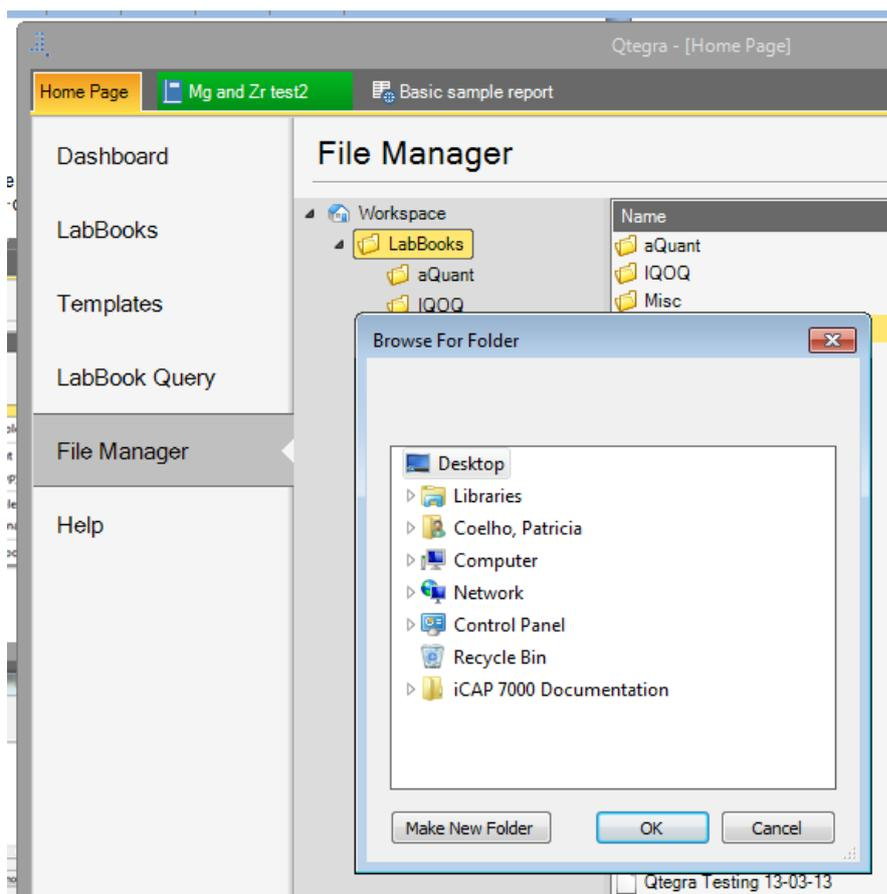

Figure 6-41. Selecting the export folder
2. Select the location to save the data. Click **OK**. See Figure 6-41.